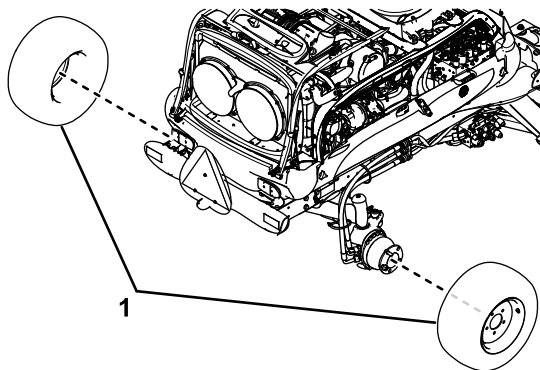

Figura 3
1. Retire as rodas traseiras (Figura 3).